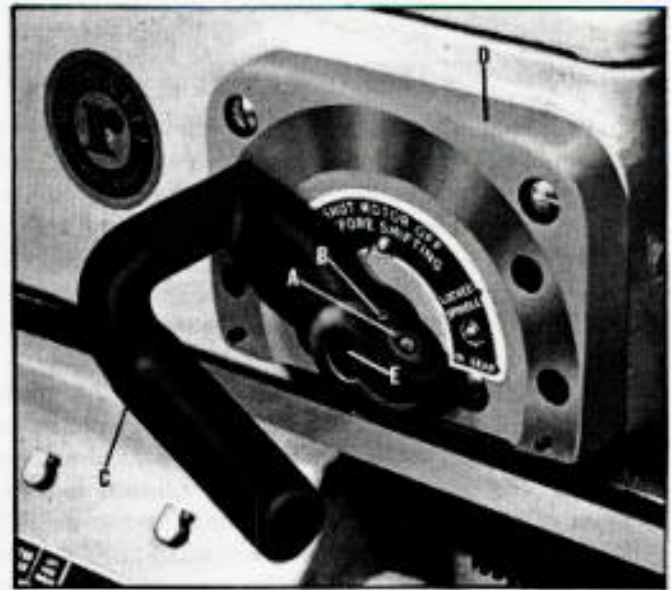

Fig. 19.
3. Place lever in loose spindle position as shown in Fig. 19, and remove screw (A) and pin (B). Then remove lever (C) from shaft.
4. Carefully remove cover (D) Fig. 19, after first removing remaining screws. Care should be taken to hold shaft (E) in place so that it will not withdraw with cover plate.